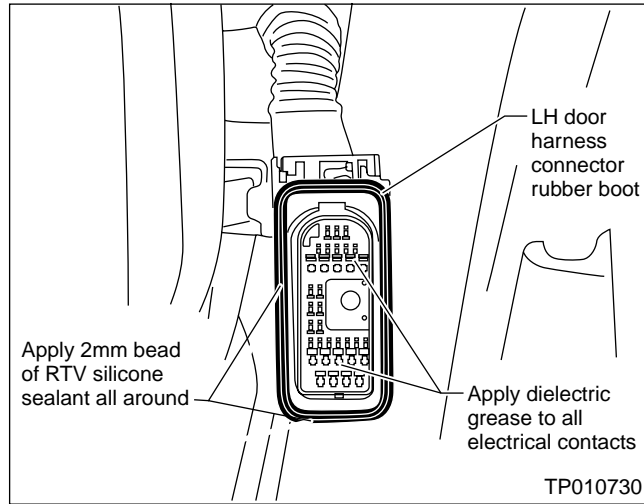

Figure 3
- D. Apply dielectric grease to the electrical contacts of the new wire harness and main connector at the A-pillar (see Figure 3).
- E. Apply a 2 mm bead of RTV silicone sealant to the contact surface of the LH door harness connector rubber boot (see Figure 3).